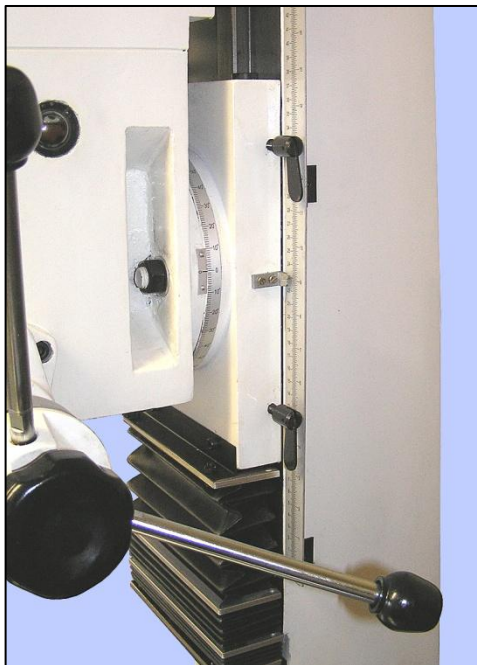

Figure 2-8
For milling operations calling for precise, repeatable control of tool depth, tighten knob (4) to engage the tapered face of hub (1) with the internal taper on sleeve (3). Tighten the Z-axis locks, Figure 2-8.
See page 6 for the Z-axis motor controls. Use the scale right of the headstock for rough positioning, Figure 2-8.